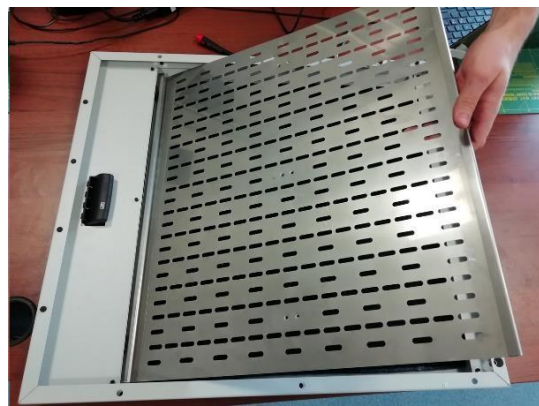

Fig. 13 Pulling the sheet metal panel from of the top cover
6. Pry the sheet metal panel with a screwdriver or other suitable tool (as shown in the picture) and slide the sheet metal panel out from underneath the black housing spacers. The panel is flexible and can be bent (Fig. 13).